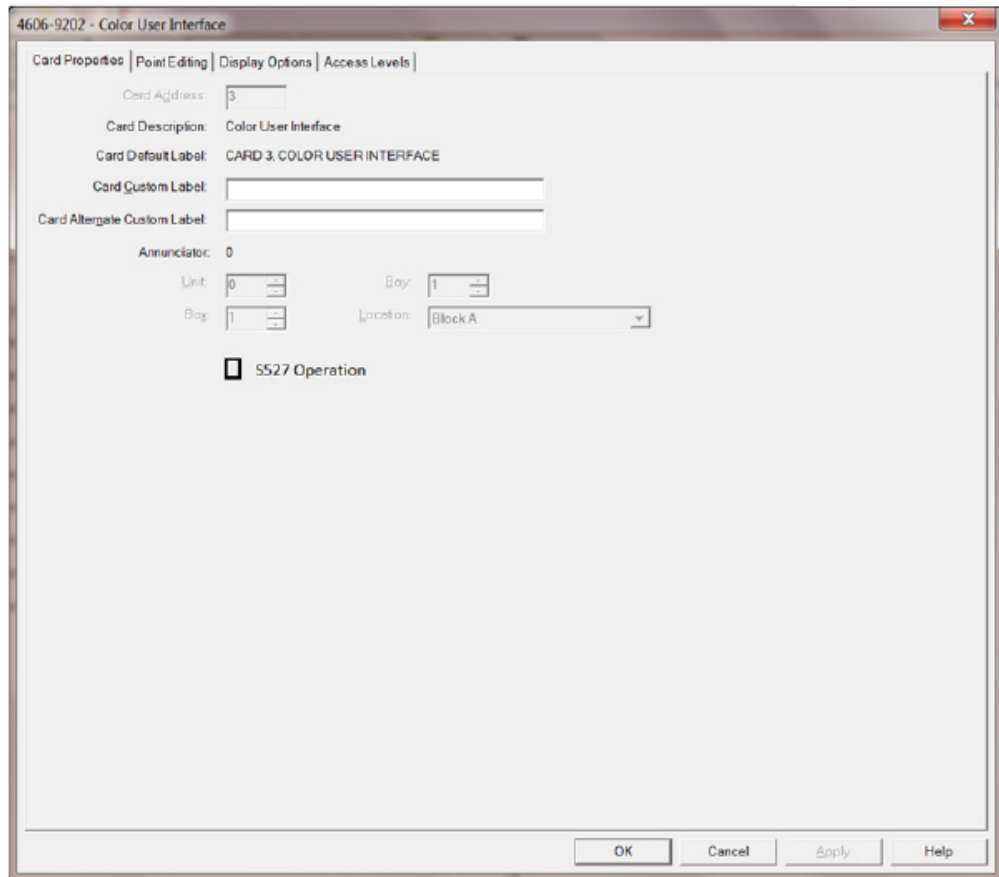

Figure A- 2. Color User Interface Properties with S527 Operation Check Box
3. Click check box **S527 Operation**, as shown in Figure A- 2.